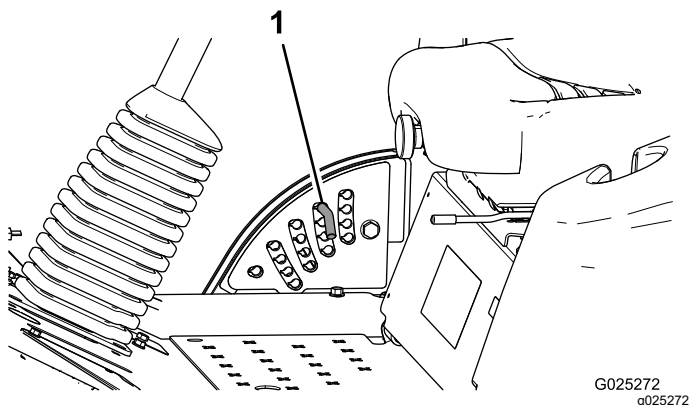

Figure 5
2. Rotate the stop pin until the nub on it lines up with the slots in the holes in the height-of-cut bracket and remove it (Figure 5).
3. Select a hole in the height-of-cut bracket corresponding to the height of cut desired, insert the pin, and rotate it down to lock it in place (Figure 5).
Note: There are 4 rows of hole positions (Figure 5). The top row gives you the height of cut listed above the pin. The second row down gives you the height listed plus 6 mm (1/4 inch). The third row down gives you the height listed plus 12 mm (1/2 inch). The bottom row gives you the height listed plus 18 mm (3/4 inch). For